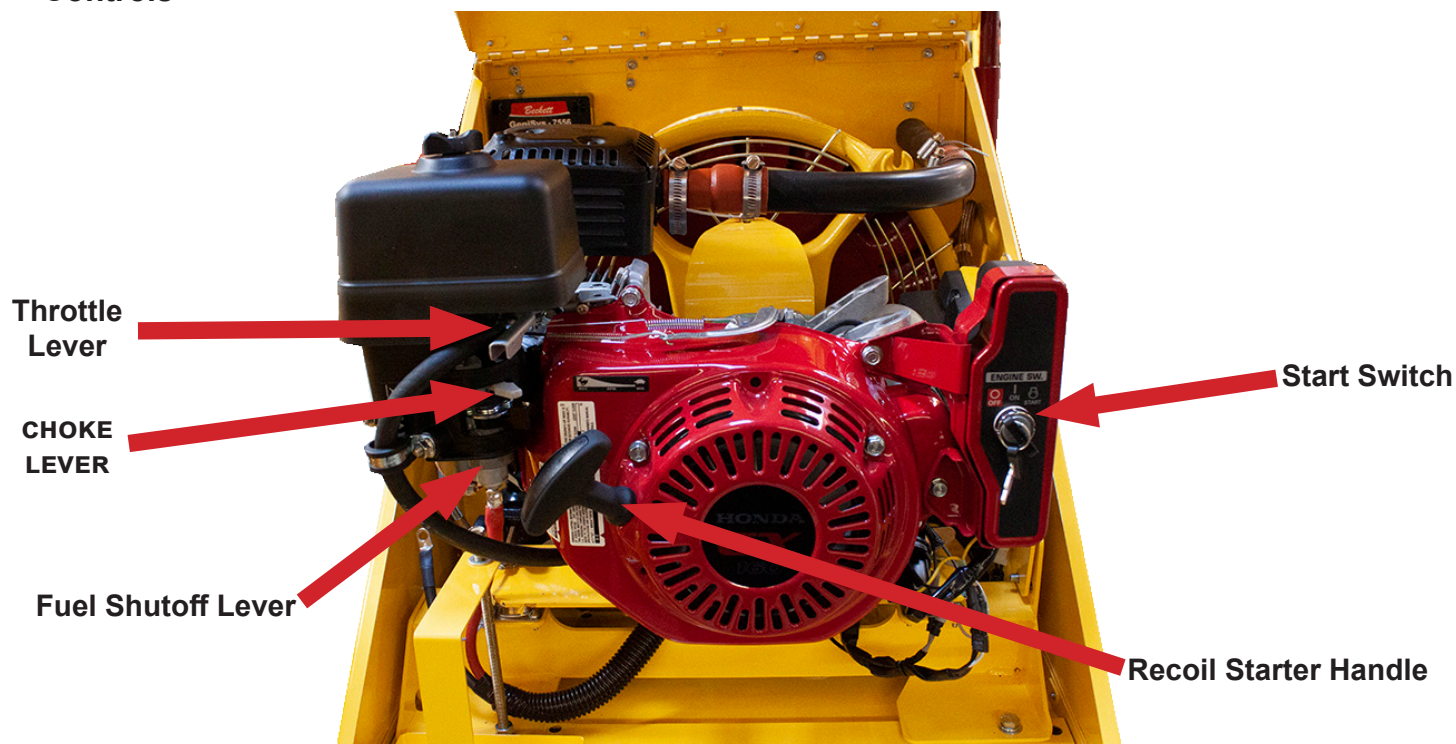

Figure 4-3 Engine Controls
4.10 The choke (see figure 4-3), installed on the engine, enables the operator to enrich the fuel mixture for cold weather starting. The choke is attached to a lever on the engine carburetor.
4.14 The recoil starter handle (see figure 4-3) is attached to the engine for the purpose of manual starting.